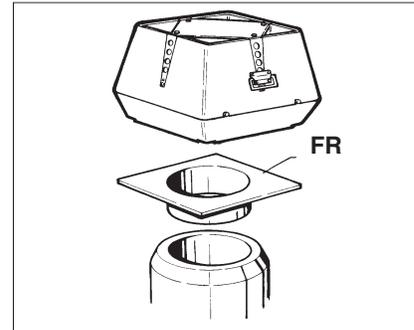

Fig. 2
- Insert the adapter (FR) into the grease duct, where the long collar engagement ensures safe anchoring. (See fig. 2).